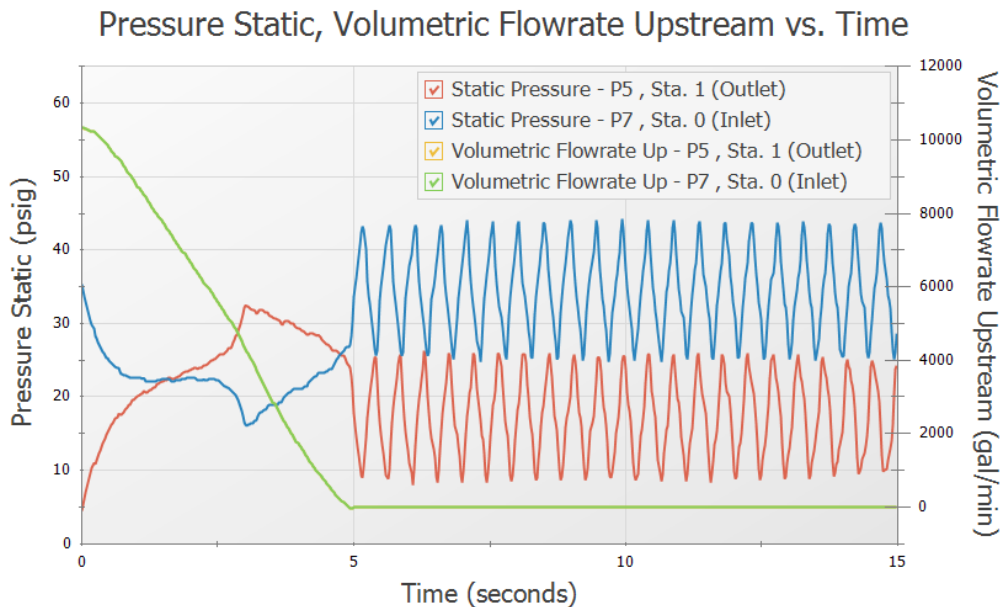

Figure 4.3 Pressure and volumetric flow rate transients using the standard pump curve data
7. Click Generate. The resulting pressure and flow transients are shown in Figure 4.3.
In Figure 4.3 you can see that the pressure increases at the pump inlet and decreases at the valve outlet until a maximum pressure of 32.6 psig at the pump inlet and a minimum pressure of 16.2 psig at the valve outlet is reached. The pressures then begin to oscillate once the discharge valve becomes fully closed.